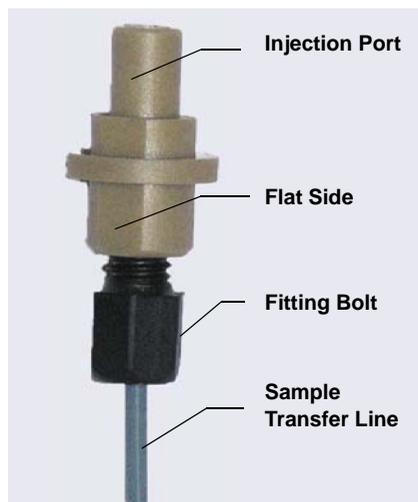

Figure 5-41. Injection Port and Sample Transfer Line (Removed)
3. Push up the injection port from below and pull the port and the sample transfer line out of the autosampler (see Figure 5-41).
6. Thread the free end of the sample transfer line through the top opening where you removed the injection port. Make sure the flat side of the injection port (see Figure 5-41) is facing toward the front and then insert the injection port into the opening until it stops.